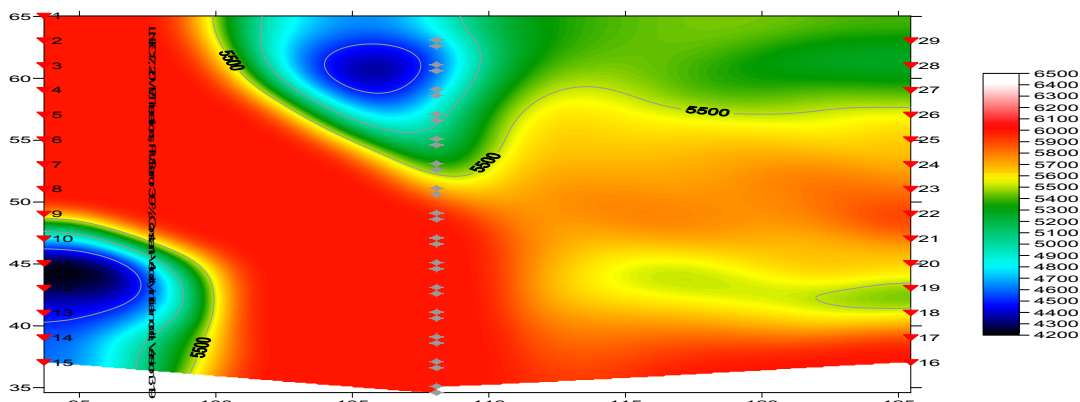

Fig. 2 : WET wavepath width 2%, smoothing filter : half width 12, half height 12. 20 WET iterations.
Fig. 3 : WET wavepath coverage plot, obtained with WET tomogram shown in Fig. 2. Note low coverage at bottom-left corner, corresponding to low-velocity anomaly in Fig. 2. Note focusing / bundling of first break energy at central receivers, due to overlap of wave paths.
- click buttons *Accept parameters* and *Start tomography processing*, to redo WET. Confirm prompts, to obtain Fig. 2 and Fig. 3.